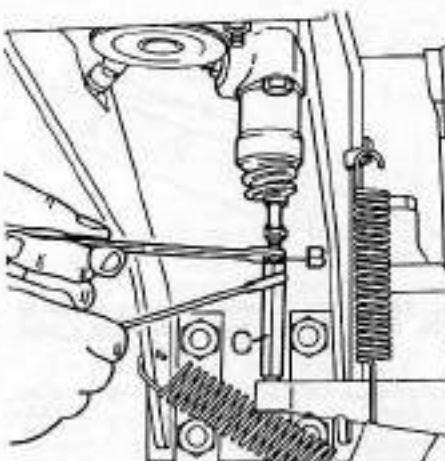

Fig. 134 - View showing adjusting sleeve (C) and locknut (B).
rod. Make certain slave cylinder is fully retracted. If return spring (A - Fig. 133) is weak, install new spring. Move cross-shaft lever away from push rod using wrench (Fig. 133) until release bearing is against thrust plate. Estimate amount of clearance between end of push rod and cross-shaft lever. Clearance must be 4 mm (5/32-inch). Loosen locknut (B - Fig. 134) and turn adjusting sleeve (C) until correct clearance is reached. Tighten locknut against sleeve.
Because of difficulty in accurately measuring clearance between push rod end and cross-shaft, an alternate method of adjusting clearance is to turn adjuster sleeve (C - Fig. 134) until any clearance between push rod end and cross-shaft lever is just removed. Turn adjuster in opposite direction **FOUR REVOLUTIONS** and tighten locknut.